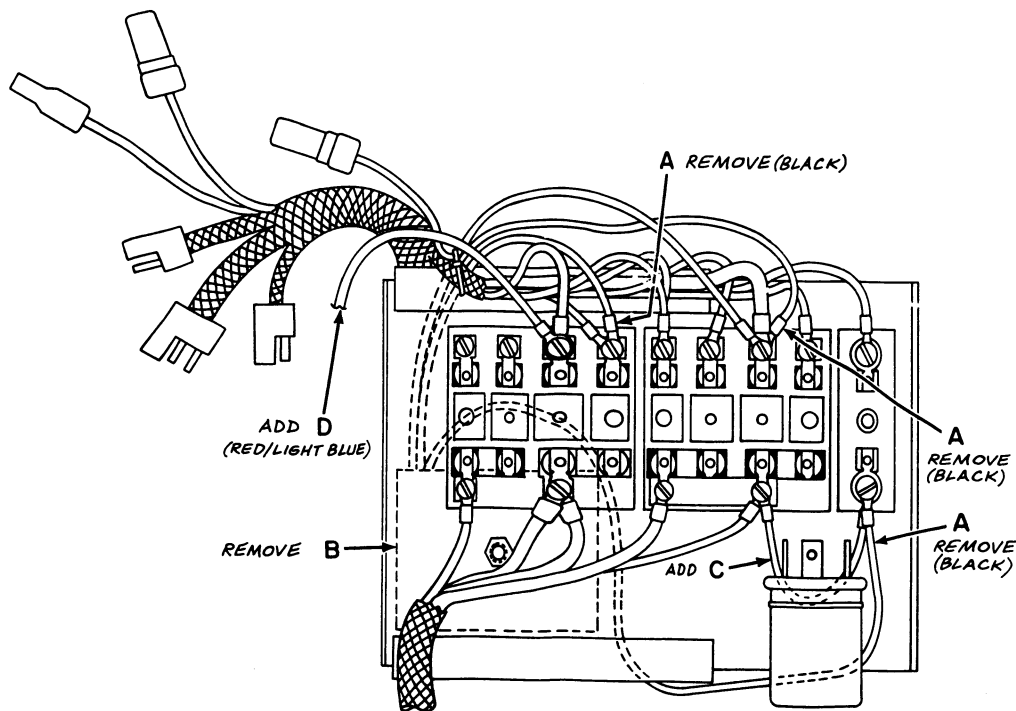

FIGURE 2-5
8. Disconnect the three count retainer wires (black) at A, Figure 2-5, and remove the count retainer, B.
9. Add jumper wire, C, Figure 2-5, from the hot side of the 15-amp fuse block to the hot side of the 1-amp fuse block.
10. Add the red/light-blue wire, D, Figure 2-5, to the protected side of the left fuse (15-